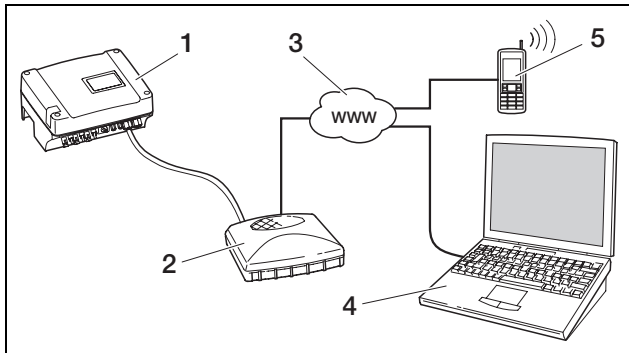

Fig. 28: Retrieving log data: Inverter connected to the Internet via DSL
- The inverter can then be accessed over the Internet under the domain name provided by the DynDNS service, and you can connect to the inverter with any Internet browser (see figure 28).